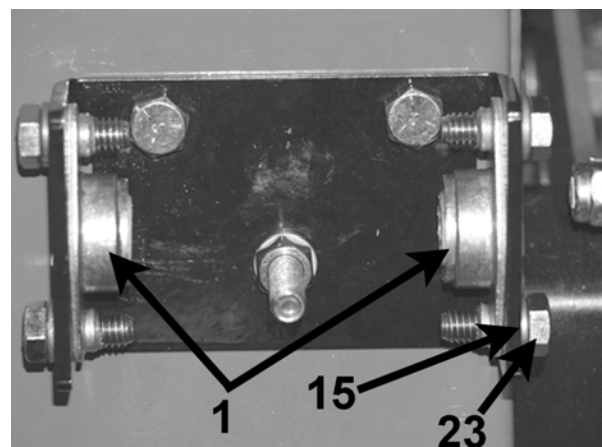

Figure 3
3. On the inside of the mounting bracket install the two bearings **1** using four bolts **23** and four washers **15**. (**Figure 3**)